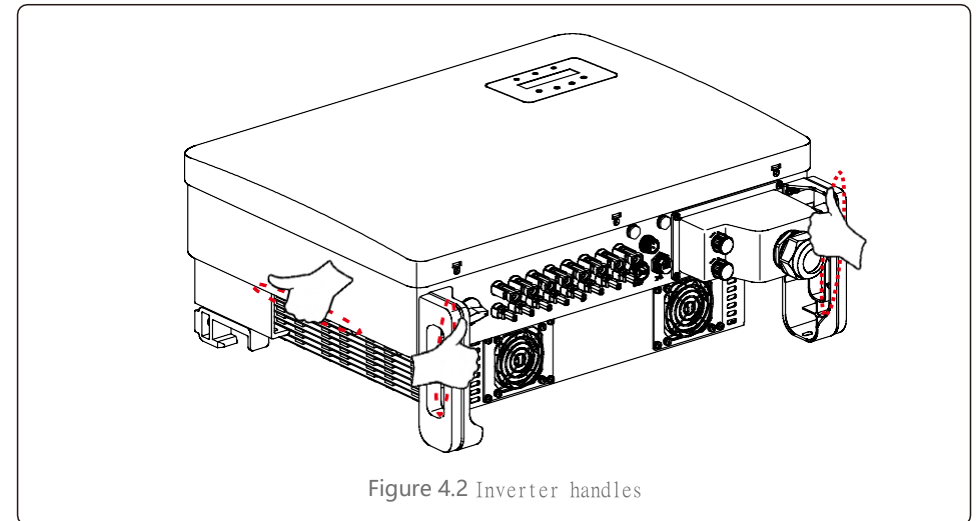

Figure 4.2 Inverter handles
2. Open the carton, then two people handle both sides of inverter through the area denoted dotted line. (see figure 4.2).